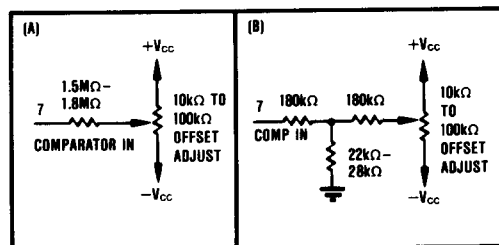

FIGURE 5. Two Methods of Connecting Optional Offset Adjust.
Gain and offset errors may be trimmed to zero using external offset and gain trim potentiometers connected to the ADC804 as shown in Figures 5 and 6 for both unipolar and bipolar operation. Multiturn potentiometers with  $100\text{ppm}/^\circ\text{C}$  or better TCR are recommended for minimum drift over temperature and time. These potentiometers may be of any value between  $10\text{k}\Omega$  and  $100\text{k}\Omega$ . All fixed resistors should be 20% carbon or better. Although not necessary in some applications, pin 12 (Gain Adjust) should be preferably bypassed with a  $0.01\mu\text{F}$  nonpolarized capacitor to analog common to minimize noise pickup at this high impedance point, even if no external adjustment is required.
**OFFSET**—Connect the offset potentiometer as shown in Figure 5. Set the input voltage to the nominal zero or minus full-scale voltage plus  $1/2\text{LSB}$ . For example, referring to Table I, this value is  $-10\text{V} + 2.44\text{mV}$  or  $-9.99756\text{V}$  for the  $-10\text{V}$  to  $+10\text{V}$  range.